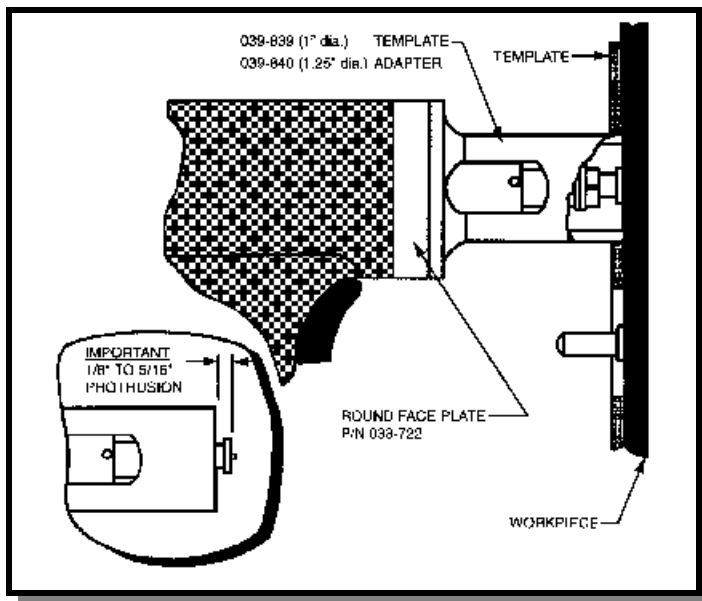

Figure 8 Template Adapter gun setup
11.5 COLLET PROTECTOR/BLUNT LEG (see Figure 8)
The round faceplate, with blunt legs, can alternately be used with the collet protector as shown in Figure 8.